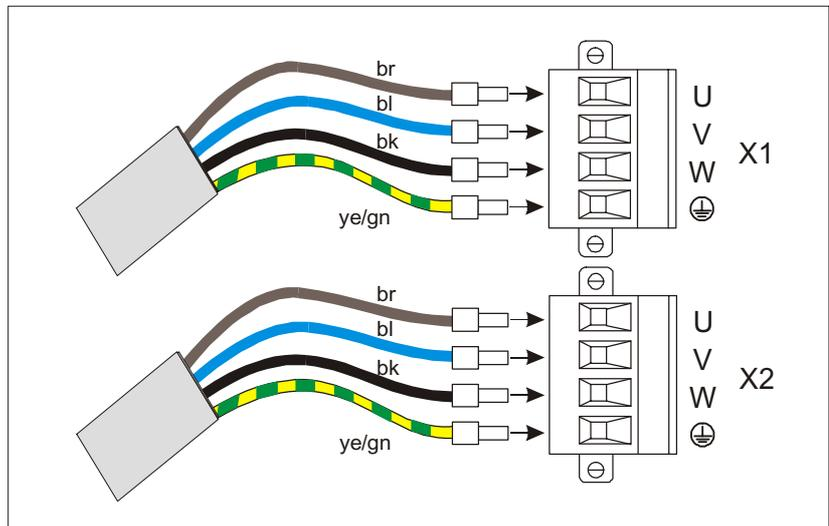

Fig. 2-7 Motor connection
1. Release the two screws and remove the connector (item X1 or X2) and remove the connector (fig. 2-7) from the unit.